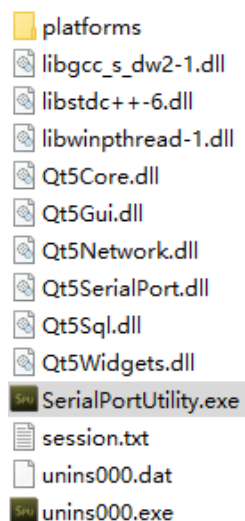

Figure 4-6 Files list of Serial Port Utility
- 2) Download 'Serial Port Utility.zip' and extract it into a local folder, then double click SerialPortUtility.exe to start the program. (Shown as Figure 4-6)